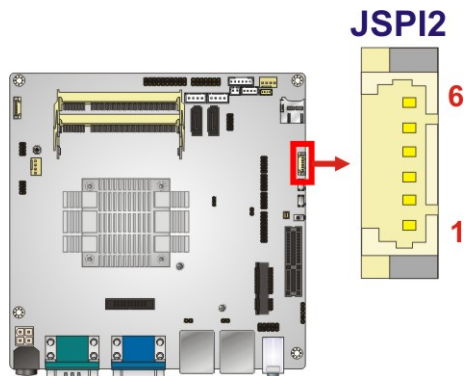

Figure 3-26: SPI EC Flash Connector Location
- CN Location:** See Figure 3-26